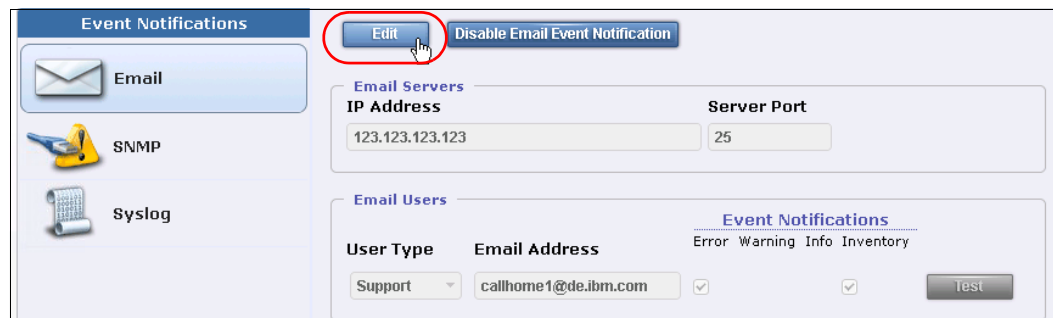

Figure 13-38 Entering edit mode
6. Complete the configuration wizard and test the email function. To do so, you have to enter **Edit** mode as illustrated in Figure 13-38. In the same window, you can define the additional email recipient, either from IBM support or local users.